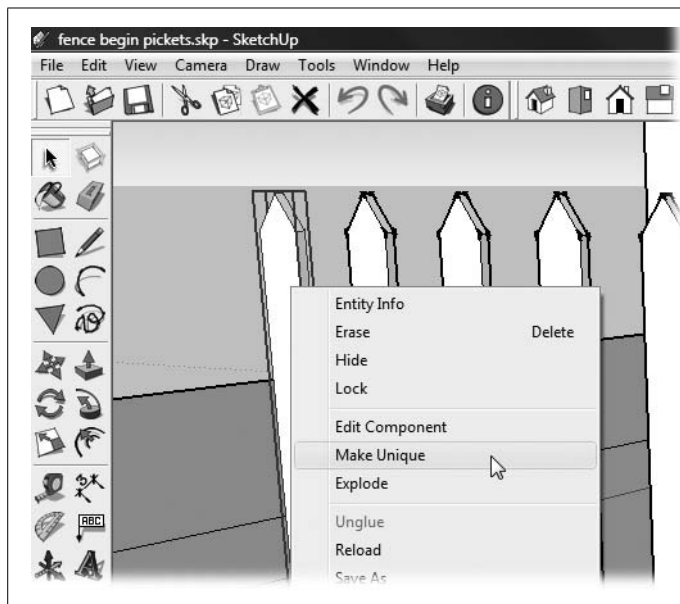

Figure 5-19:
1. With Select (space bar), right-click the fence post next to the driveway. From the shortcut menu (Figure 5-19) choose Make Unique.